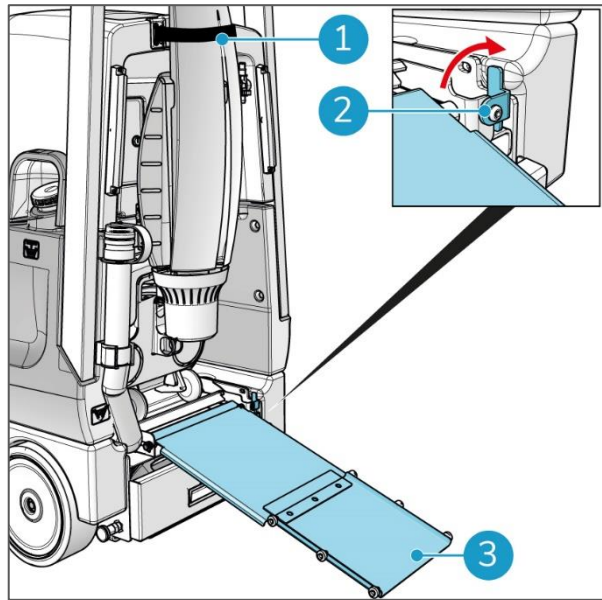

Figure 61
1. Loosen the strap holding the i-mop® lite (Figure 61, pos 1).
2. Unlock the blue lock (Figure 61, pos 2).
3. Pull out the ramp and unfold it (Figure 61, pos 3).